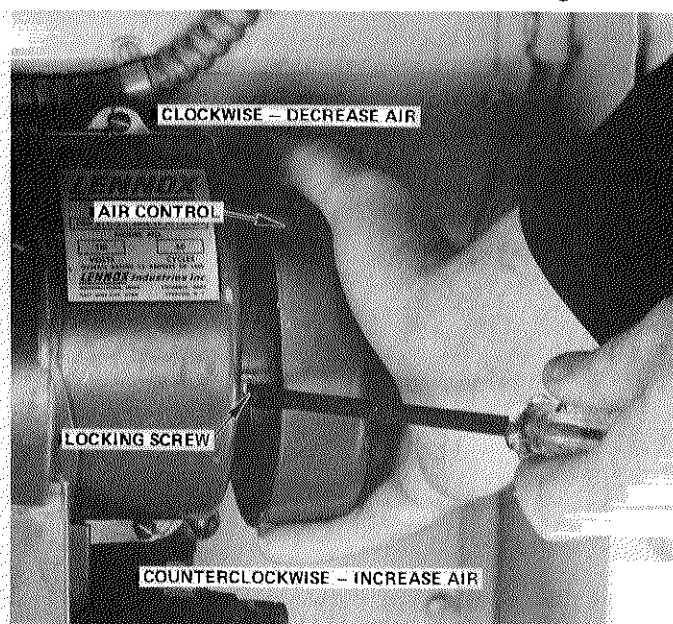

FIGURE 23
- 4 - Loosen Air Control locking screw and rotate the air control cover until the fire appears clean. Refer to Figure 23.